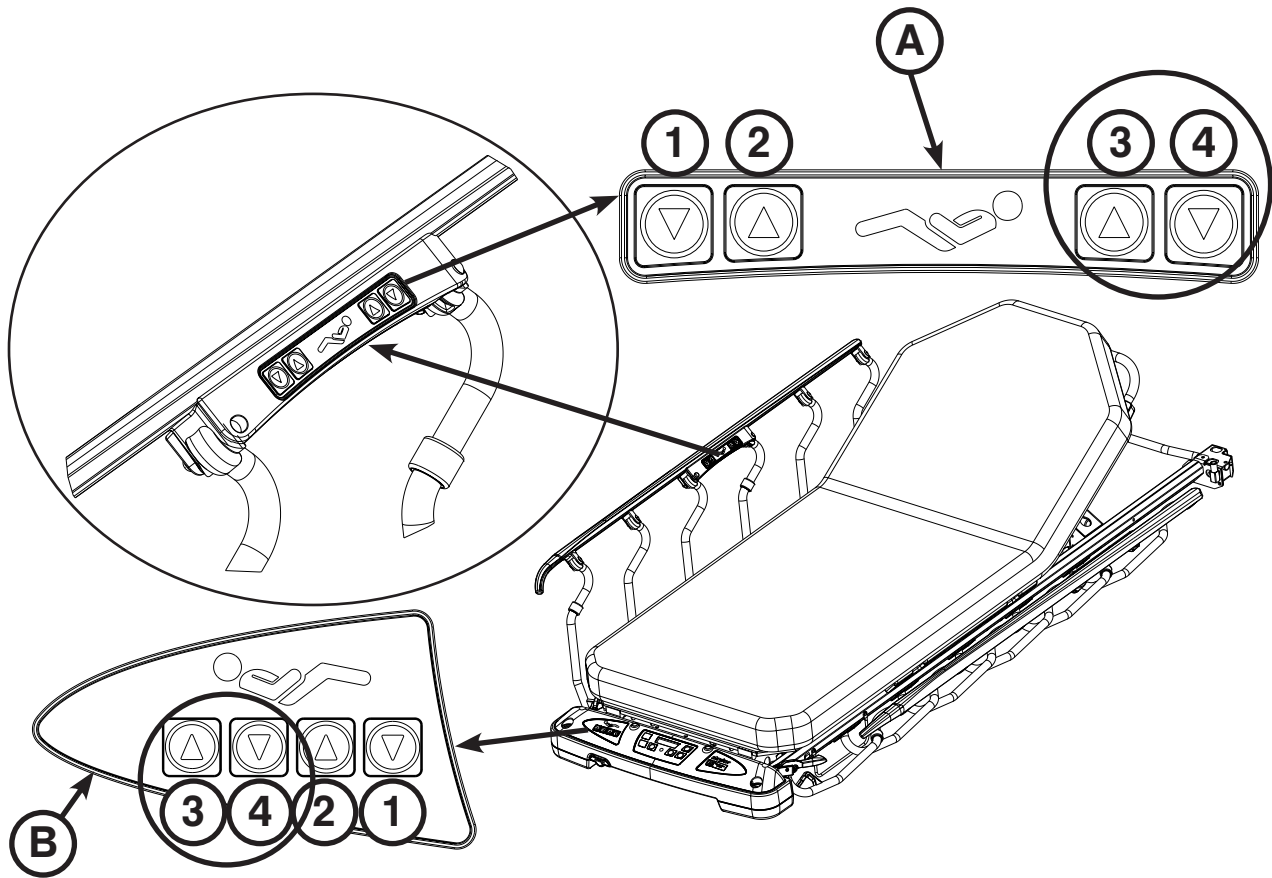

Figure 23: Fowler - Electric Option
To raise the fowler, press the UP (3) button on the patient siderail controls (A) or foot end nursing controls (B) until the fowler has reached the desired angle (between 0 and 70 degrees) as shown in Figure 23.
To lower the fowler, press the DOWN (4) button until the fowler has reached the desired angle (between 70 and 0 degrees) as shown in Figure 23.